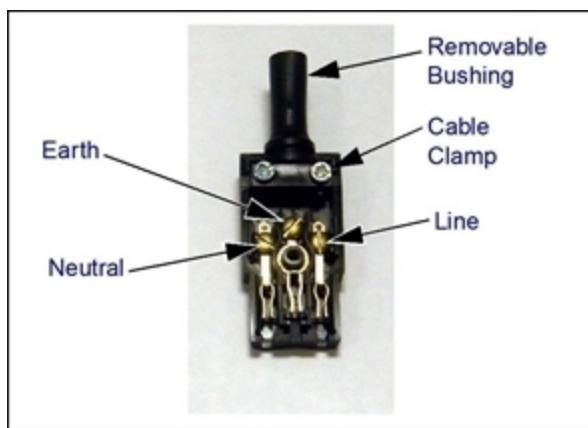

Figure 3-5. AC Power Mating Connector
3. Loosen the two screws on the cable clamp. See Figure 3-5.